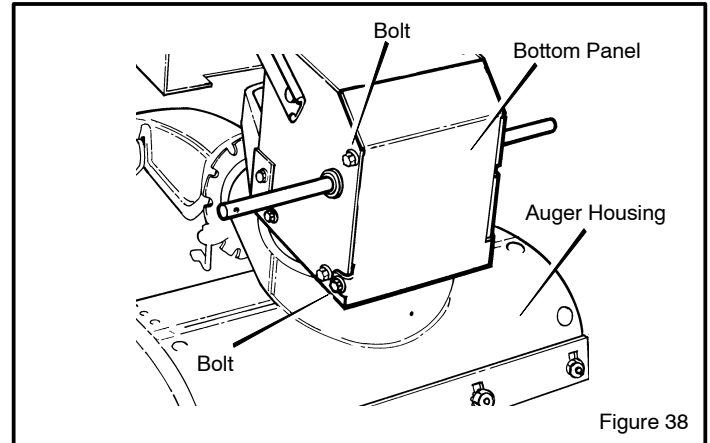

Figure 38
1. Remove the gas from the gas tank. Stand the snow thrower up on the front end of the **auger housing** (see Figure 38).
3. Loosen the **bolts** on each side of the **bottom panel** (see Figure 38).
6. Install the **bottom panel** (see Figure 38).
1. Remove the gas from the gas tank. Stand the snow thrower up on the front end of the **auger housing (4)**. (see Figure 38).